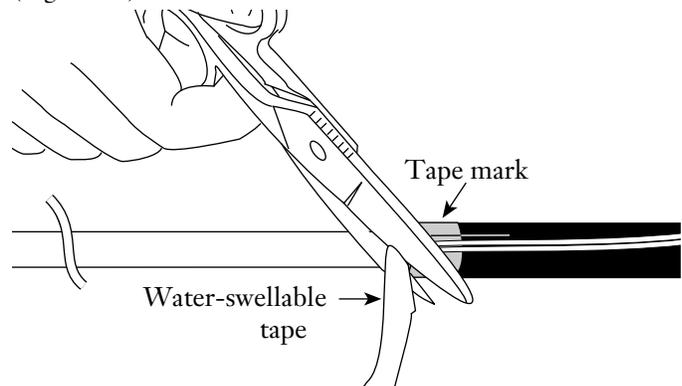

Figure 37
7.16 To reveal the central tube, cut away the water-swappable tape flush at both tape marks using scissors (Figure 37).